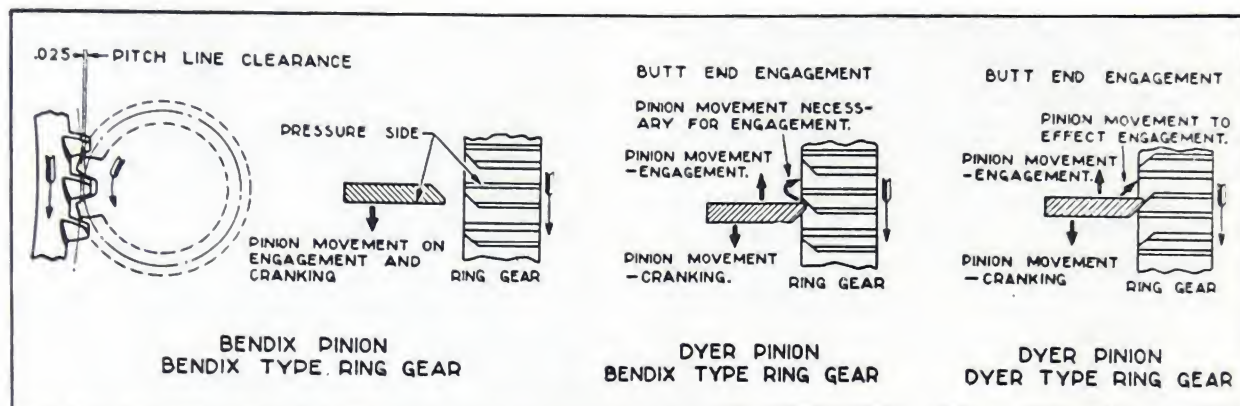

Fig. 11-6. Action of Dyer type pinion upon engagement with flywheel of different chamfer
FLYWHEEL RING GEAR: 1. The Dyer pinion should be used with a Dyer type ring gear. Fig. 11-6 shows the chamfer of the teeth for different arrangements. Where more than one attempt is necessary for making engagement of the pinion it is usually due to burred flywheel teeth. When flywheel ring gears are replaced, the Bendix type gear should never be used with a cranking motor on an engine having a Dyer type drive.
2. On a cranking motor having a Dyer drive, the armature shaft is splined. If the cranking motor rotation is clockwise, viewed from the drive end, the spline is right handed. If the rotation is counter-clockwise, the spline is left handed. The pinion rotates slightly as it moves forward to engage with the flywheel. If the wrong chamfer arrangement is used, the tip of the pinion teeth may butt the flywheel teeth on the chamfered side. In this event, it is necessary for the pinion to move one tooth farther from the point the pinion tries to engage with the flywheel. Refer to Fig. 11-6 showing butt end engagement of the Dyer pinion with the Bendix type ring gear. Engagements of this kind not only require repeated attempts for engagement